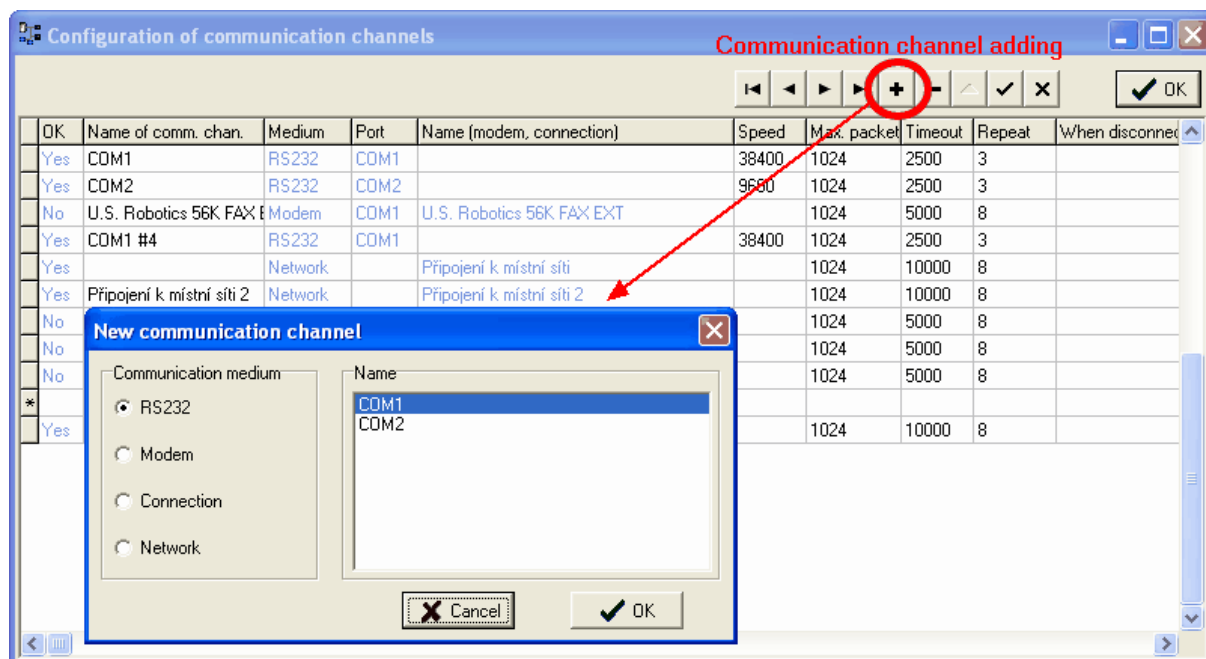

Fig. 31 Adding of new communication channel
- In case of adding a new device to the set service SW is possible to choose already defined communication channel or define a new communication channel with the button „+“ see Fig. 31.